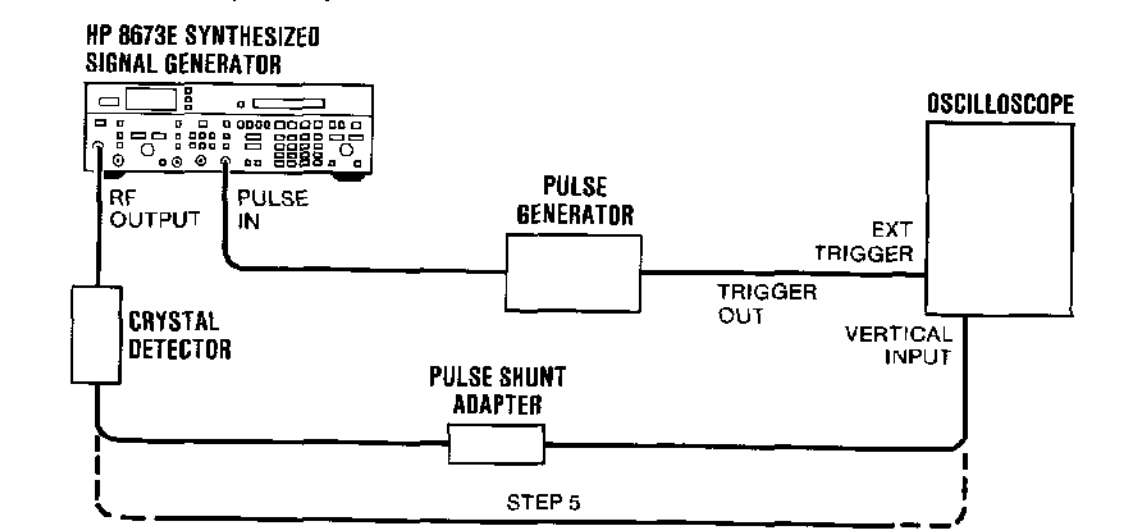
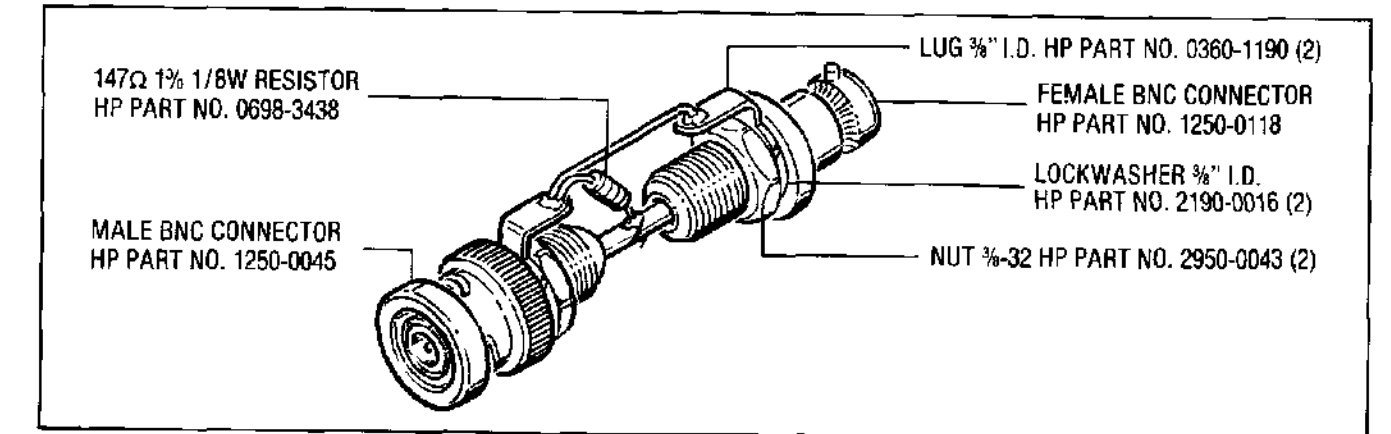

Figure 8-43. Pulse Modulation Initial Check Test Setup
Figure 8-44. Pulse Shunt Adapter
1. Connect the equipment as shown in Figure 8-43. The shunt adapter can easily be fabricated using 2 BNC connectors and a 147 ohm resistor as shown in Figure 8-44.
5. Bypass the Pulse Shunt Adapter as shown in Figure 8-43. Adjust the oscilloscope vertical position and sensitivity controls so that the pulse base line is one division from the bottom graticule line and approximately 5 divisions high in peak amplitude. (The Signal Generator output level may have to be increased to +8 dBm.)